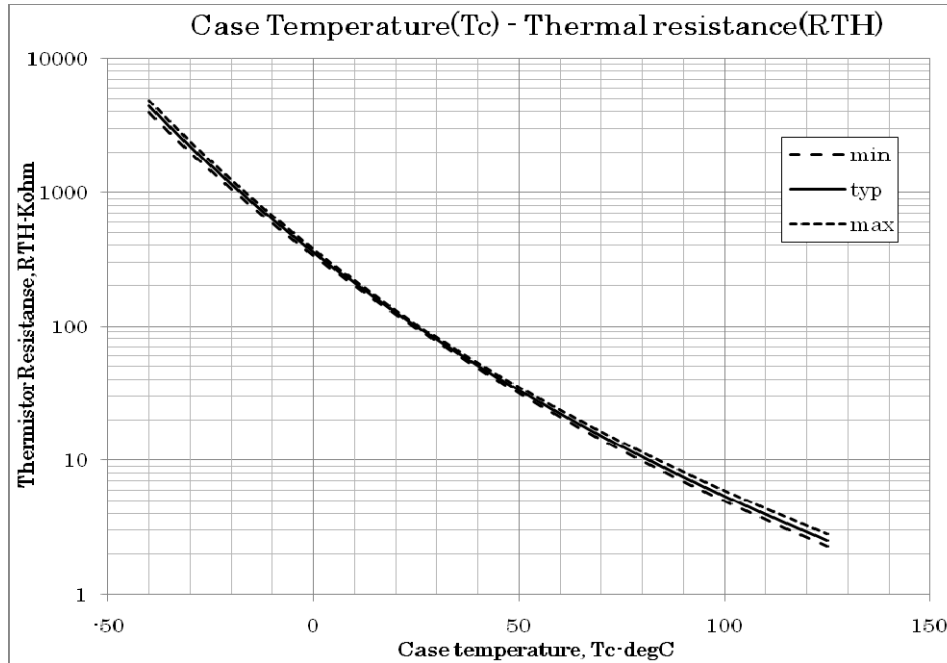
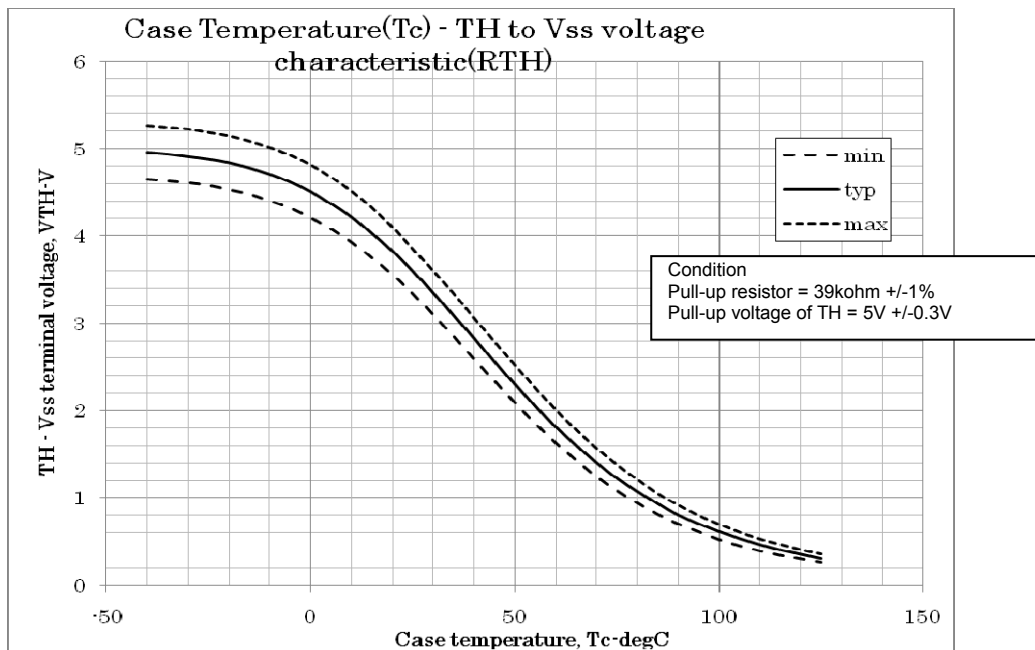

Fig.11 Variation of thermistor resistance with temperature
Fig.12 Variation of temperature sense voltage with thermistor temperature
5. Inside the H-IC, a thermistor used as the temperature monitor for internal substrate is connected between VSS terminal and TH terminal, therefore, an external pull up resistor connected between the TH terminal and an external power supply should be used. The temperature monitor example application is as follows, please refer the Fig.11, and Fig.12 below.